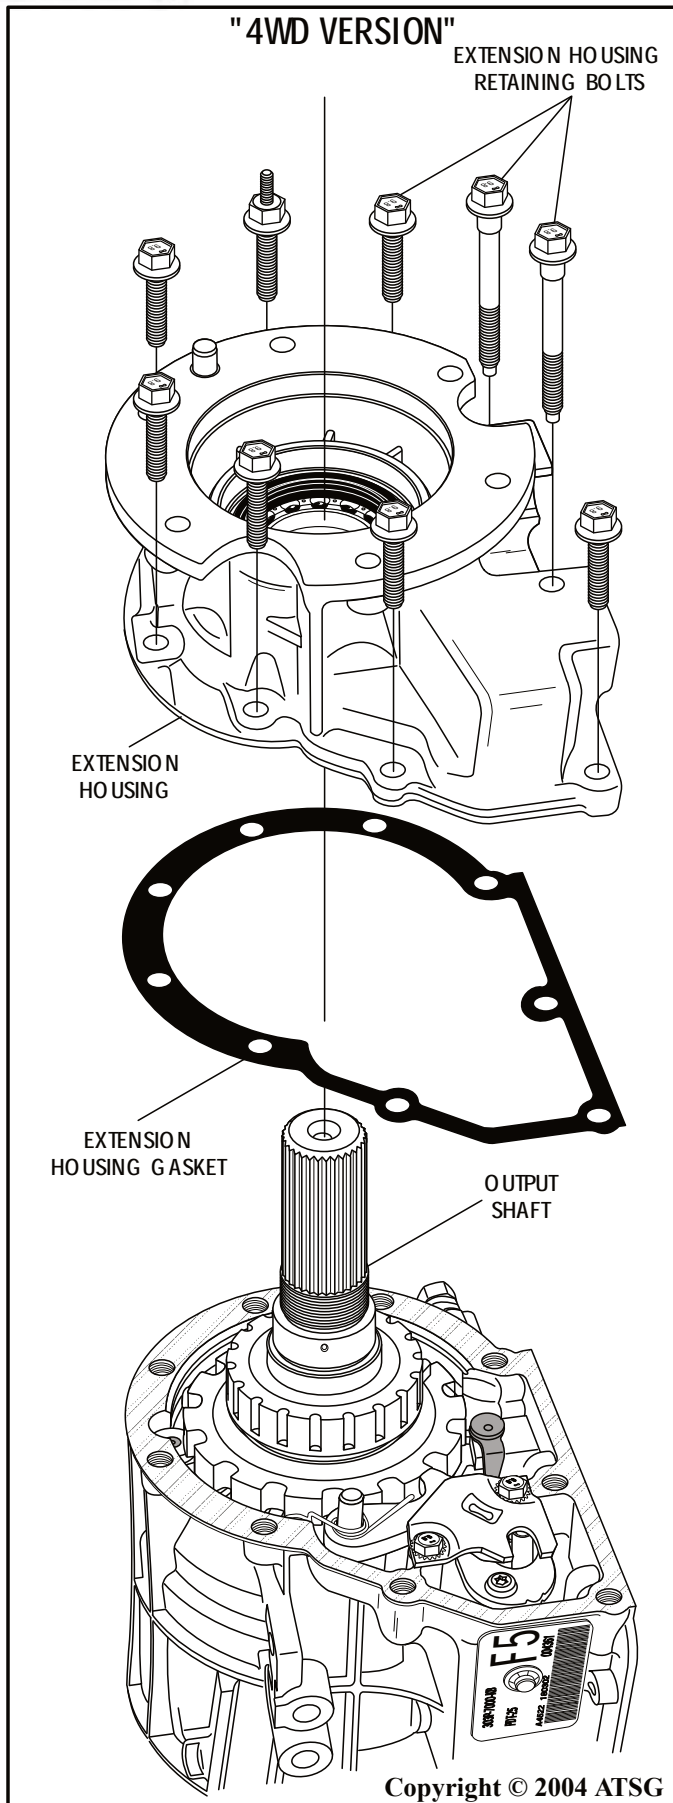

Figure 68
28. Install new extension housing gasket onto the transmission, as shown in Figure 68.
29. Install the completed extension housing onto the transmission, as shown in Figure 68.
30. Install the extension housing retaining bolts, as shown in Figure 68.